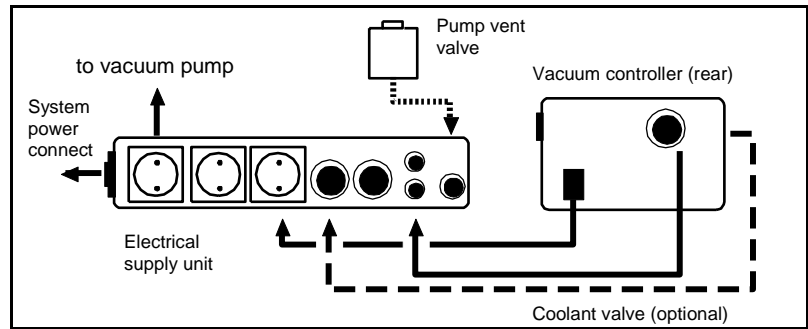

Fig. 11: Electrical connection LABOPORT System SC
**i** Figures 11 and 12 provide an overview of the electrical connections for LABOPORT systems SC and SCC.